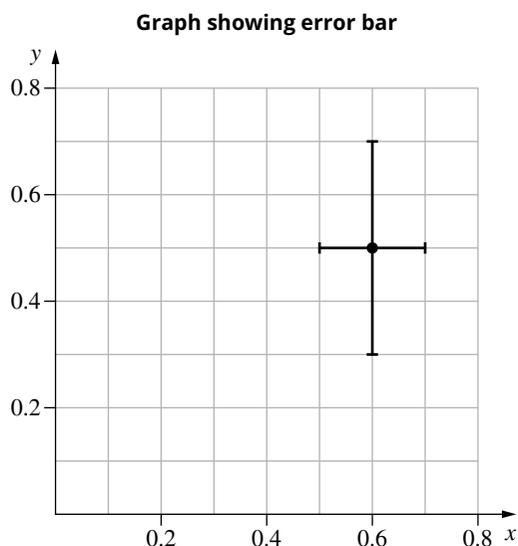

FIGURE 1.6.3 This error bar has an x value of 0.6 ± 0.1 and a y value of 0.5 ± 0.2 .
- 5 Error bars should be drawn for each point. These indicate the absolute uncertainties in the independent (a horizontal line) and dependent (a vertical line) values. They are drawn as a horizontal line centred on the data point indicating the independent variable's uncertainty left and right of the value, and as a vertical line centred on the data point above and below the value, indicating the dependent variable's uncertainty. Combining the x and y error bars forms an error rectangle that the true measurement is located within (Figure 1.6.3).